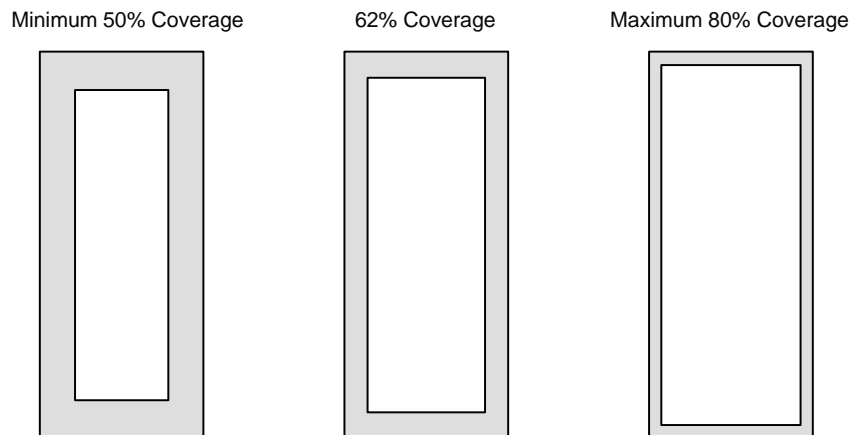

Figure 8. Solder Paste Application on Pins
4. The aperture opening for the signal pads should be between 50–80% of the SIP pad area as shown in Figure 8.